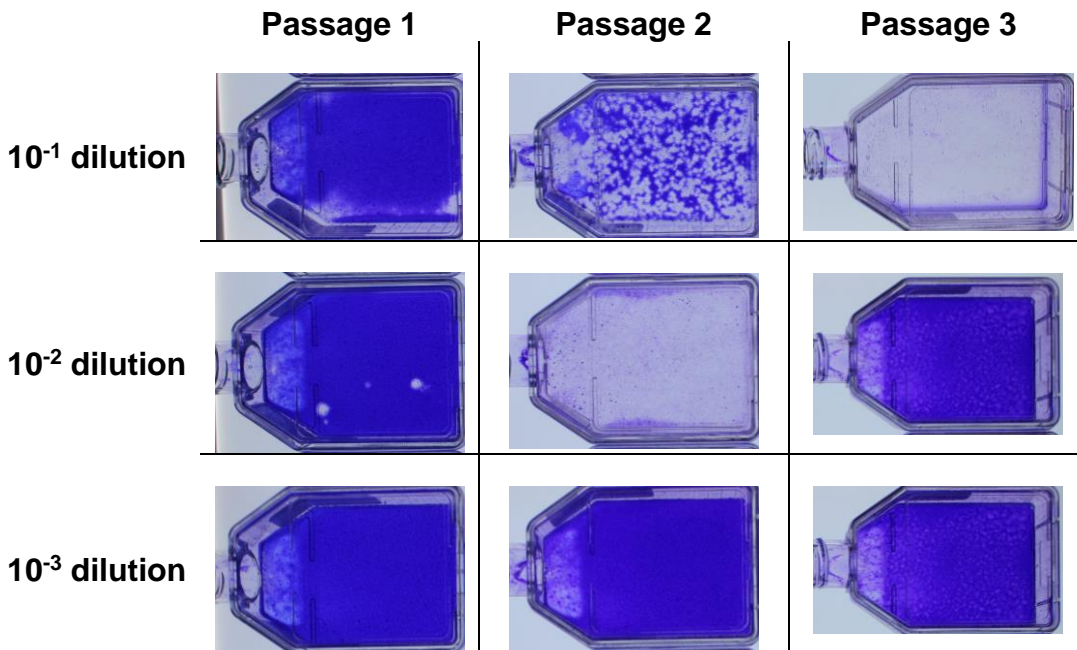

Figure 2: Example of a positive semen result according to VI on cell culture
- CPE whatever the dilution of the positive control and whatever the VI passage number as shown in figure 2.